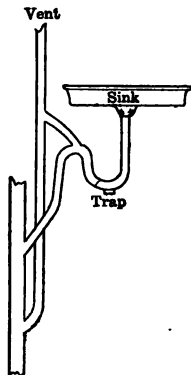

FIG. 72. — Trap for sinks.
15. What is the purpose of the trap in a sink or toilet, as shown in Fig. 72? Is it a siphon? If not, try to learn what prevents its acting as a siphon.